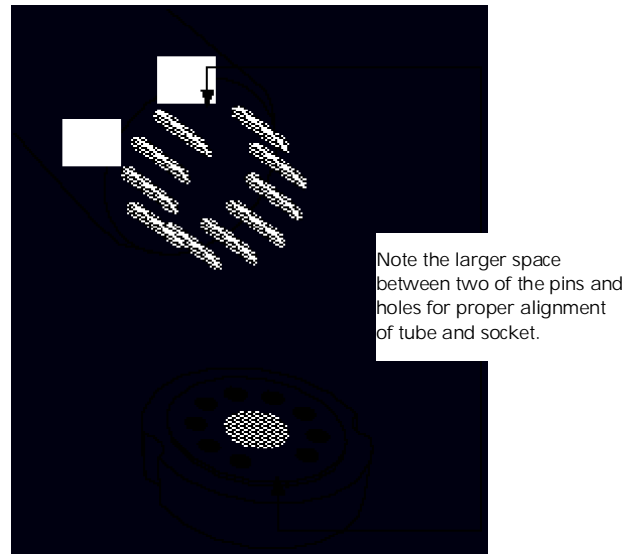

Figure 5 - Tube pin alignment with the socket.
5. Take the V1 tube and examine the pins noting the large space between two of the pins. This space will align with the same larger space between two of the pin holes on the socket. Insert the V1 tube into the V1 tube socket, making sure all pins and pin holes are aligned (see Figure 5). Do not force the tube into the socket. Rock the tube gently while pushing slowly until the tube is firmly seated. Repeat this step for the remaining tubes, V2 tube to the V2 tube socket, V3 tube to the V3 tube socket, V4 tube to the V4 tube socket.